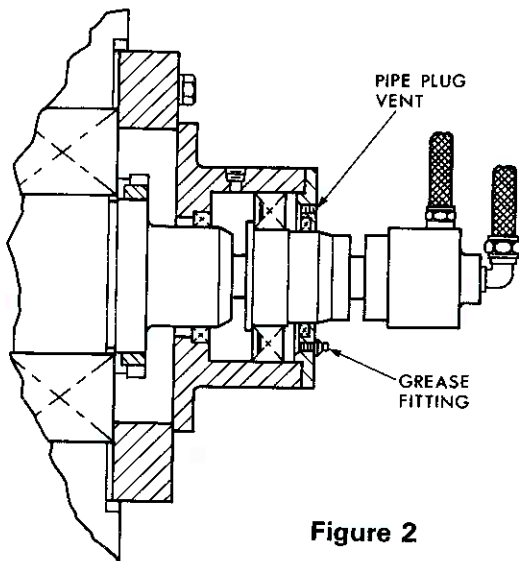

Figure 2
Units with a non-slip clutch are equipped with anti-friction bearings that are single shielded and grease lubricated. A standard grease fitting and vent hole are located in the bearing housing. At six (6) month intervals, remove the vent hole pipe plug and pump NLGI Grade 3 lithium base grease through the lube fitting until grease appears at the vent. Replace vent plug, Figure 2.